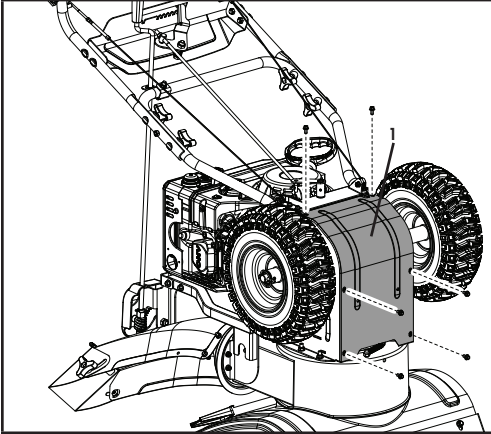

Figure 30
- Remove the base frame cover (1) from the underside of the snowblower by removing the six M6 × 16 screws which secure it (Fig 30).